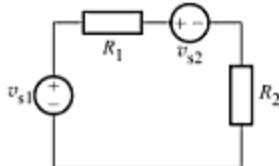

Fig. A-57
- A-8. In the circuit of Fig. A-57, if $v_{s1} = 120 \text{ V}$, $v_{s2} = 30 \text{ V}$, $R_1 = 30 \Omega$, and $R_2 = 30 \Omega$, compute the power absorbed by each component.